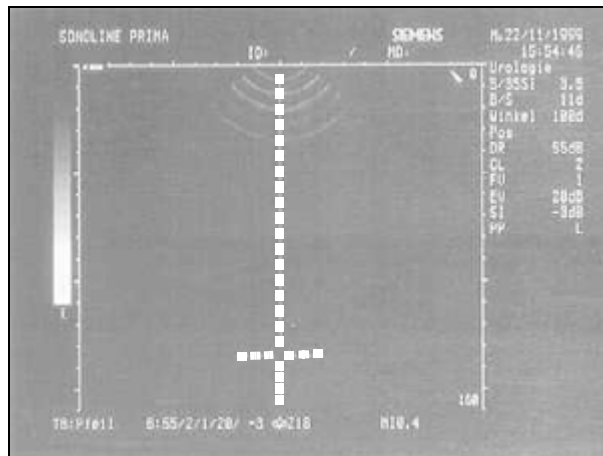

Fig. 46: MODULARIS cross 04
- When selecting a probe,  or  the following cross \(Fig. 46 / p. 43\) is displayed.